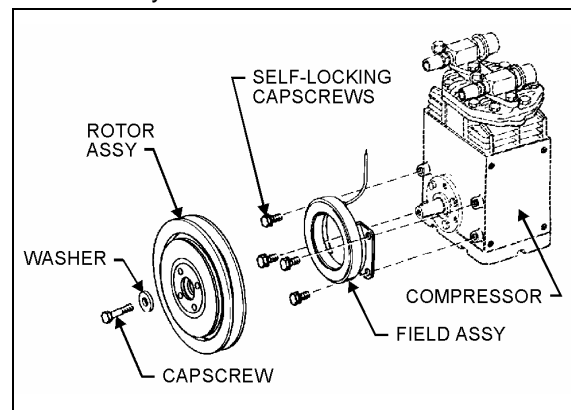

FIGURE 33: PULLEY INSTALLATION
1. Position the field assembly against the compressor bosses, aligning the field mounting holes with the bolt holes in the bosses (Fig. 33). Insert four (4) self-locking cap screws, supplied with the clutch, into the bolt holes of the compressor. Tighten the cap screws to a wrench torque of 7/10 lbf•ft (9,5/13,5 N•m). Take care not to strip the threads in the compressor body.